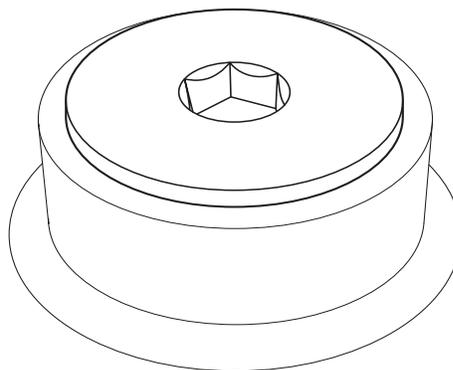

Figure 6.25 - Remove Fill Plug from Hydraulic Oil Tank
4. Remove Tank Plug - Remove the plug from the top of the hydraulic oil tank (Figure 6.25).